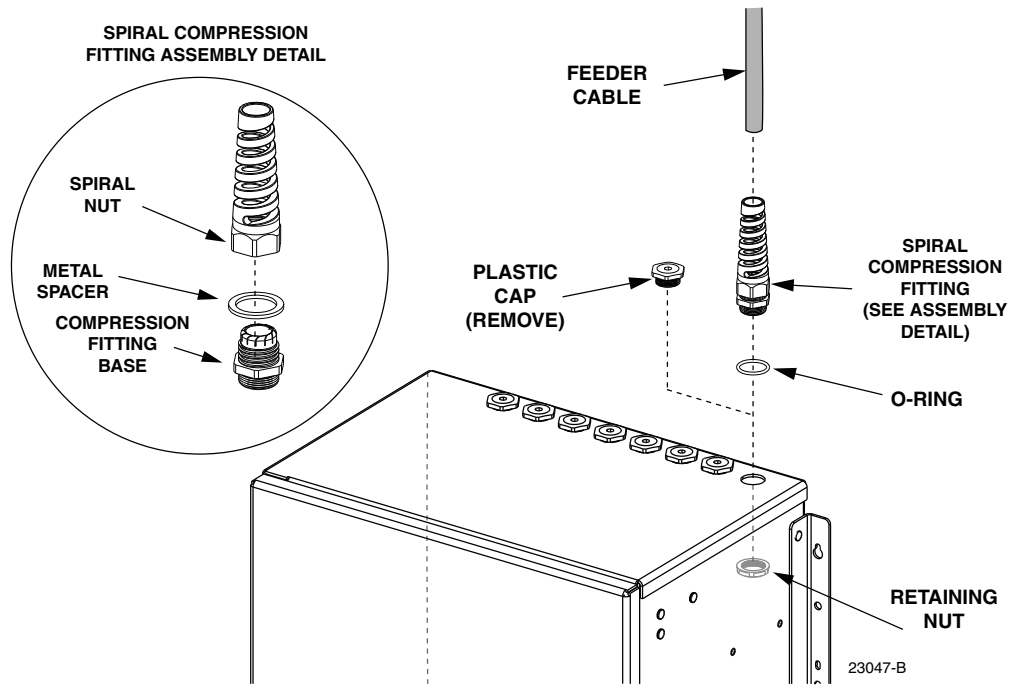

Figure 12. Plastic Cap Removal and Compression Fitting Installation
3. Remove the plastic cap and retaining nut from the feeder cable entry/exit hole as shown in Figure 12. Save the retaining nut for reuse.
4. Locate the spiral compression fitting components that are shipped with the cabinet and loosely assembly the fitting (see Figure 12).